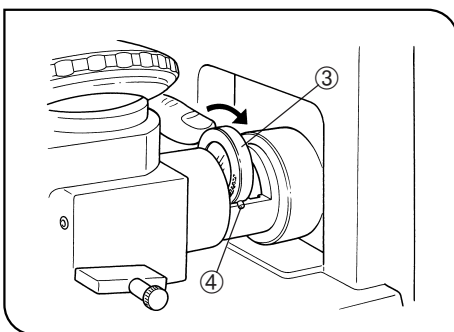

Fig. 28
2. When the polarizer is rotated and held, the side opposite the protrusion lifts, allowing you to remove the polarizer easily. (Fig. 28)